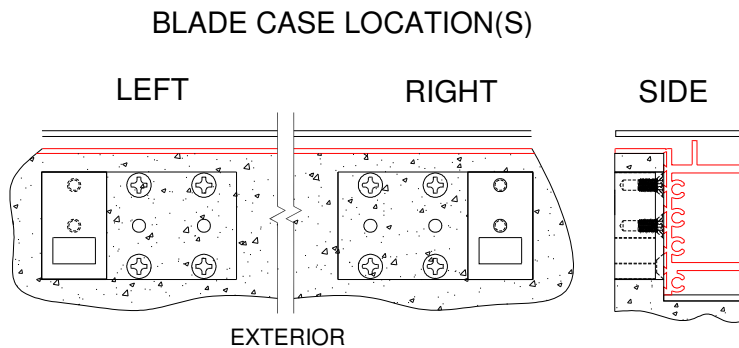
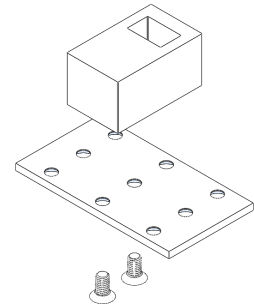

Figure 18:
Figure 19:
1. Determine the location setting for the blade case (Figure 18). Remove screws (from the underside) and reassemble as necessary (Figure 19).